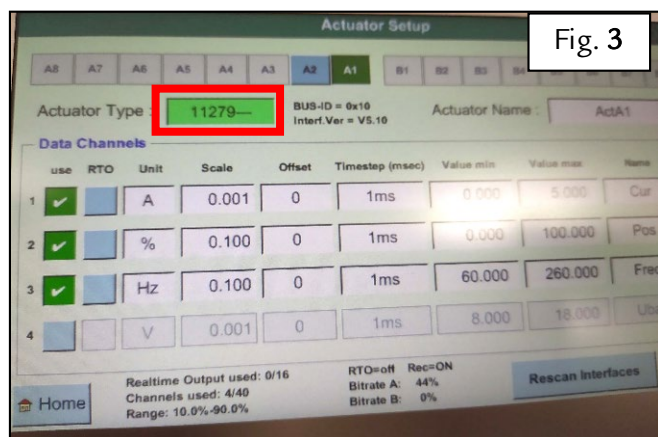

Fig. 3
- Select the green area next to “Actuator Type”, select “11263---” and press OK – Fig.3 and 4.